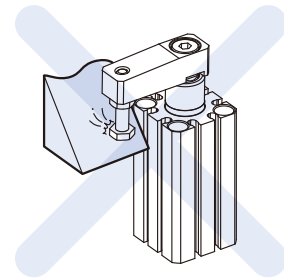

Fig.3
- 3 Make sure that the clamping surface of the workpiece is perpendicular to the axial line of cylinder. (Fig.3)